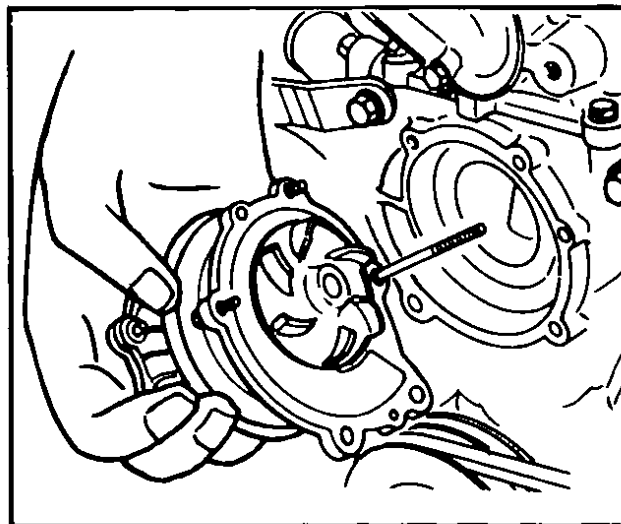

Fig 106 Removing water pump – Models 610 and 710
- 5 Remove the bolts securing water pump assembly to engine front cover and remove the water pump assembly and gasket from engine front cover, Fig 106